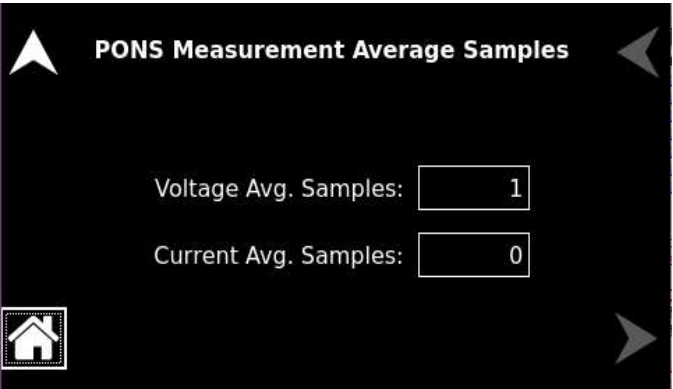

Figure 11-99. PONS Measurement Average Samples
**PONS Measurement Average Samples** User can specify how many readings should be averaged together to minimize noise in the output. Refer to Figure 11-99.